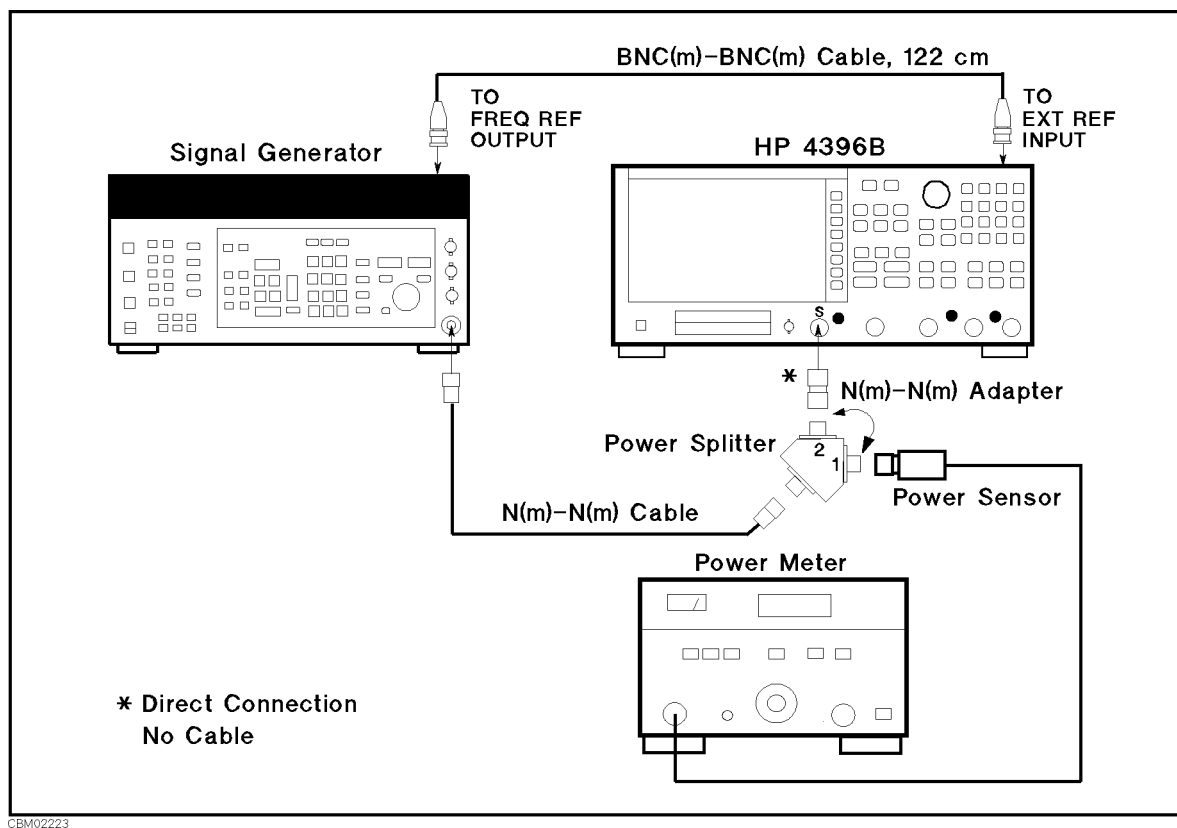

Figure 2-27. Frequency Response Test Setup 2
9. Reverse the power splitter output connections as shown in Figure 2-27.